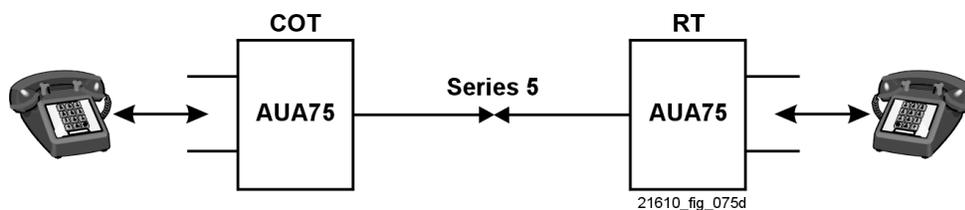

Figure 3. Test Arrangement For Ringing/Talking Tests
- Step 3. At the COT temporarily connect a telephone set to the T/R of the selected channel (Figure 3). This can be done using the special test cord (COMCODE 405525809) inserted in the face plate jack of the CU.